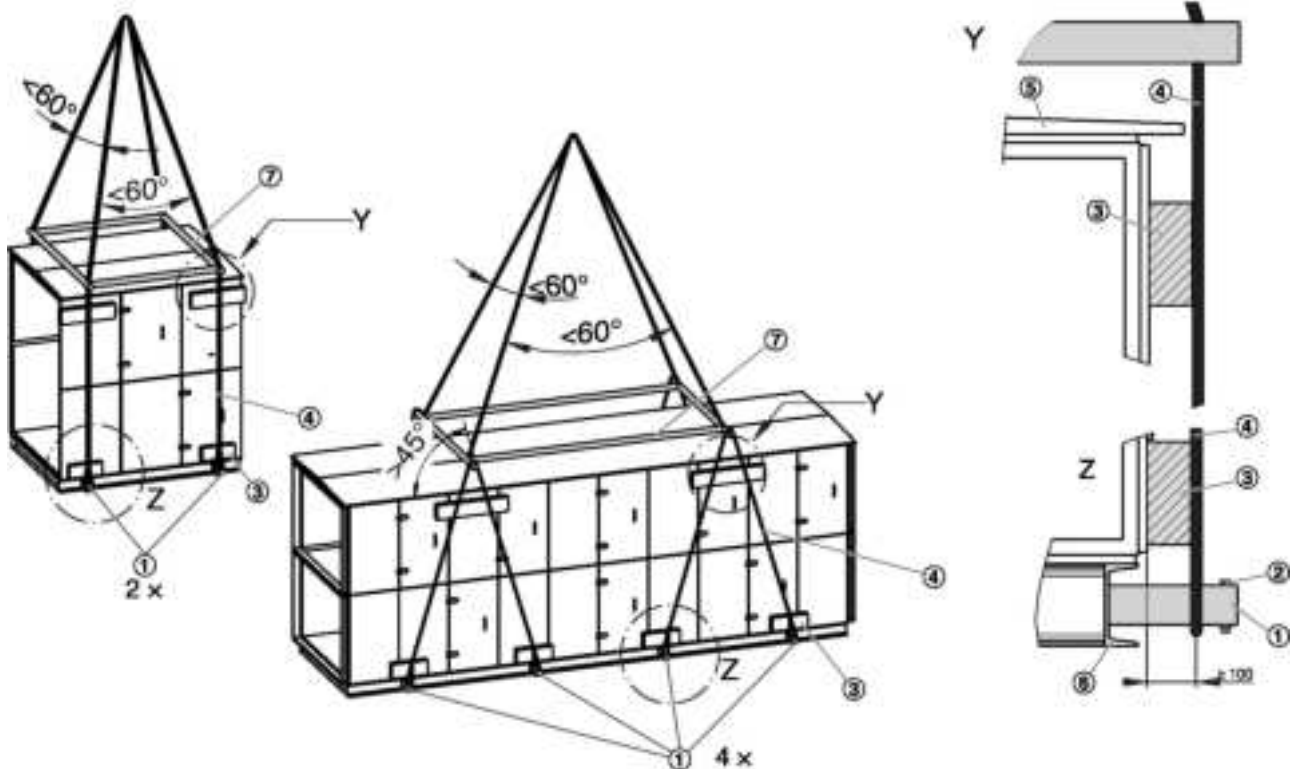

Fig. 5: Lashing points with two or four transport tubes
The number of drilled holes in the base frame (Fig. 5 /6) indicates the number of transport tubes (Fig. 5 /1) to be used.
- Select the lashing points based on the number of transport tubes you use, Fig. 5
1. ▶ Remove the plugs from the drilled holes in the base frame (Fig. 5 /6) of the AHU casing unit.
2. ▶ Push transport tubes (Fig. 5 /1) through the drilled holes in the base frame.
Secure the transport tubes with screws (Fig. 5 /2).
3. ▶ Place the slings (Fig. 5 /4) around the ends of the transport tubes.
Position slings between the base frame (Fig. 5 /6) and the screws (Fig. 5 /2).
Protect the edges with wood blocks (Fig. 5 /3). If a unit with a roof (Fig. 5 /5) is to be moved, use wood blocks that are thick enough to provide a distance of 100 mm between the sling and the casing unit.
Spread the slings near the roof with a suitable device (Fig. 5 /7), e.g. a spreader beam.